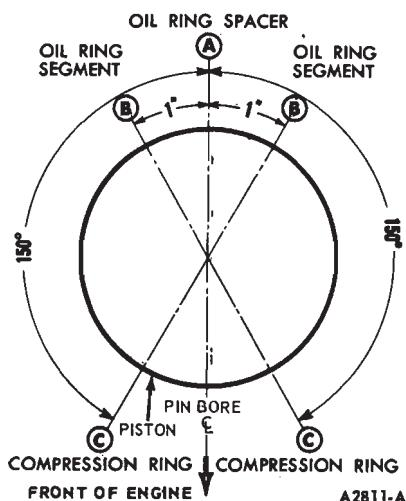
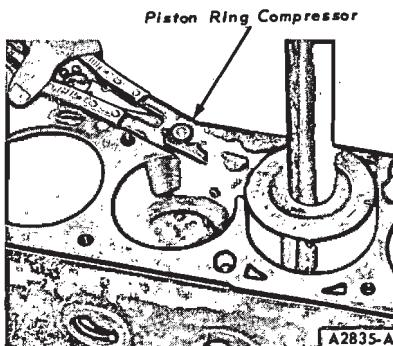

FIG. 31—Piston Ring Spacing
FIG. 32—Installing Piston
4. Make sure the ring gaps are properly spaced around the circumference of the piston (Fig. 31). Apply engine oil to the piston rings. Install a piston ring compressor on the piston and push the piston in with a hammer handle until it is slightly below the top of the cylinder (Fig. 32). Be sure to guide the connecting rods to avoid damaging the crankshaft journals. **Install the piston with the indentation in the piston head toward the front of the engine.**